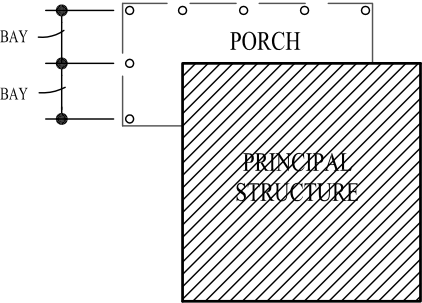

Figure 10
- » The undercroft of porches shall be skirted with lattice having openings of 1-1/2” square maximum. Alternatively, louvers of solid cellular PVC may be used. Lattice or louvers shall be placed a minimum of 3/4” behind the surface of the pier and shall be framed with trim. See Figure 10.